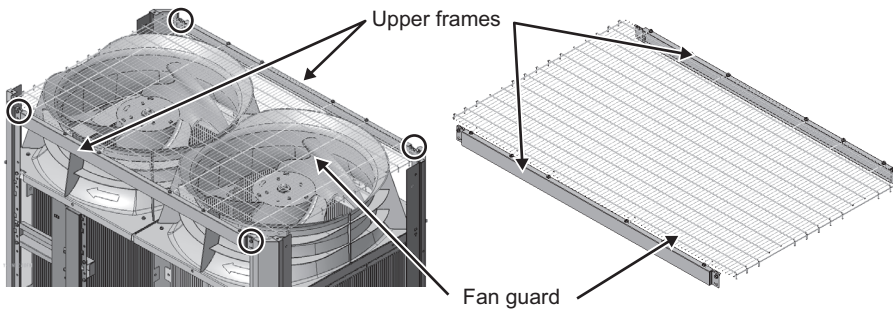

Fig. 82
(6) Remove the fan guard and the upper frames. (Four screws: Fig. 82)